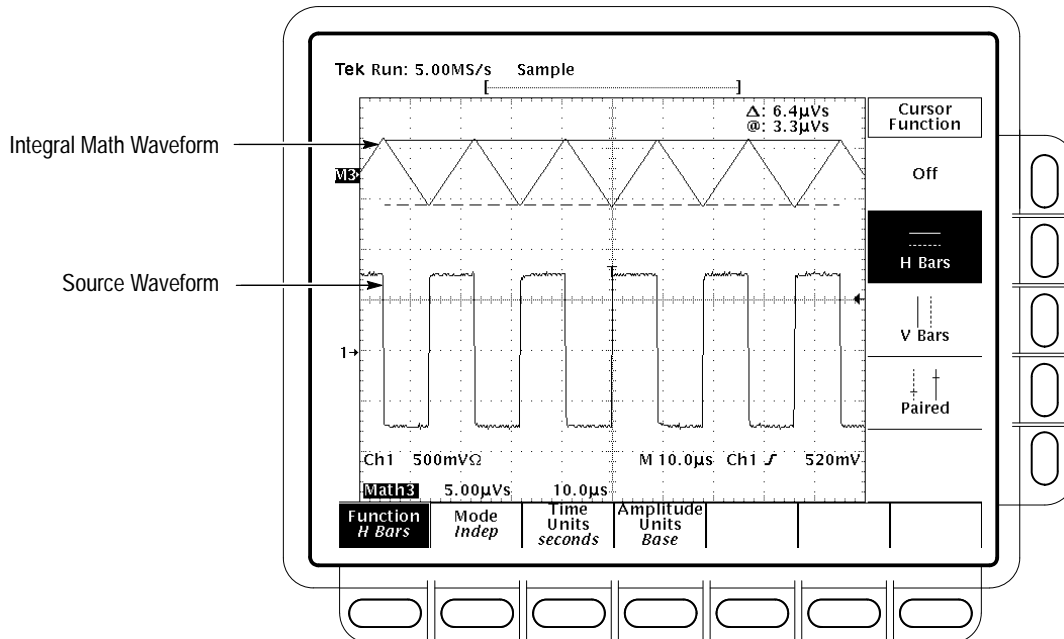

Figure 3-94: H Bars Cursors Measure an Integral Math Waveform
6. Read the integrated voltage over time between the cursors in volt-seconds from the **Δ**: readout. Read the integrated voltage over time between the selected cursor and the reference indicator of the math waveform from the **@**: readout. (See Figure 3-94.)